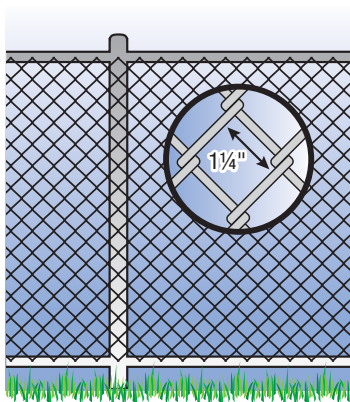

Figure 5
8. **Maximum mesh size for chain link fences** should not exceed 1¼ inch square unless the fence is provided with slats fastened at the top or the bottom which reduce the openings to no more than 1¾ inches (figures 5 and 6).